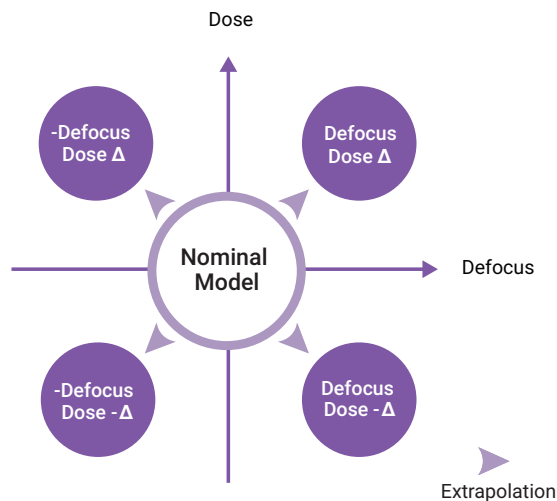

Figure 6: ProGen parameterized process window modeling
Process Window (PW) modeling facilitates hot spot detection during verification and correction across the process window. Proteus uses a parameterized approach to generate models across the process window. Models at non-nominal conditions are built by extrapolation of the focus and dose shift from the nominal condition, without involving the laborious steps in building each model in a repetitive manner (Figure 6).